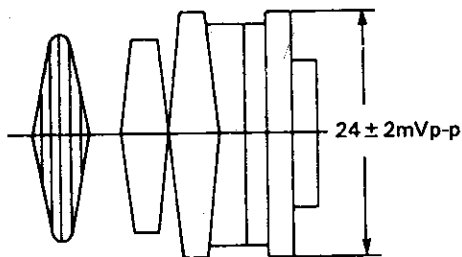

Figure 2-9.
- c) Adjust R504 (recording chroma control) so that the red level be $24 \pm 2\text{mVp-p}$ as shown in Figure 2-9.